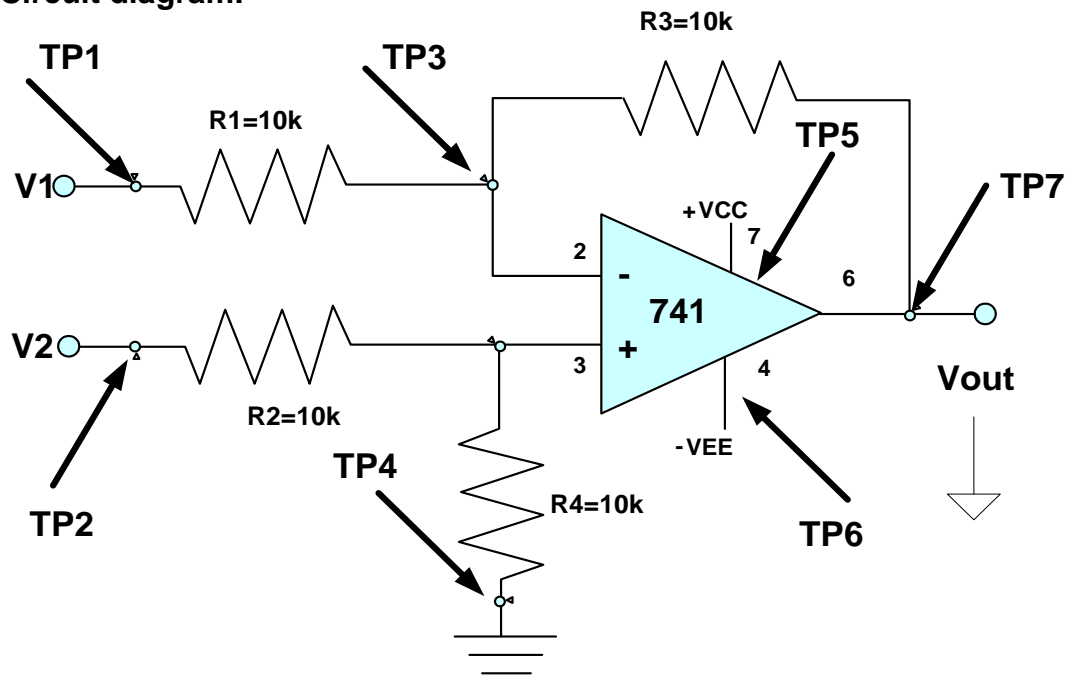

Figure 6.2
A circuit diagram of a differential amplifier made using an op amp is shown in Figure 6.2.
1. Assemble the circuit as shown in the Figure 6.2